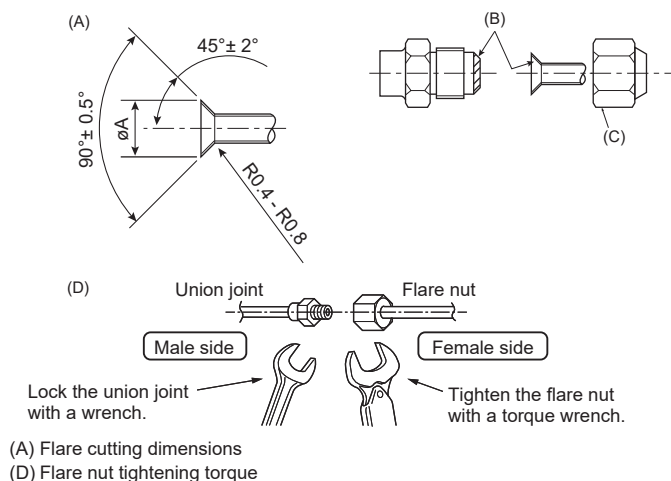

Fig. 4-1
(A) (Fig. 4-1)
(D) (Fig. 4-1)
4.2. Connecting pipes (Fig. 4-1)
- Apply thin layer of refrigerant oil to pipe and joint seating surface before tightening flare nut. (A)
- Use 2 wrenches to tighten piping connections. (D)
- Apply refrigerating machine oil over the entire flare seat surface. (B)
- Use the flare nuts for the following pipe size. (C)